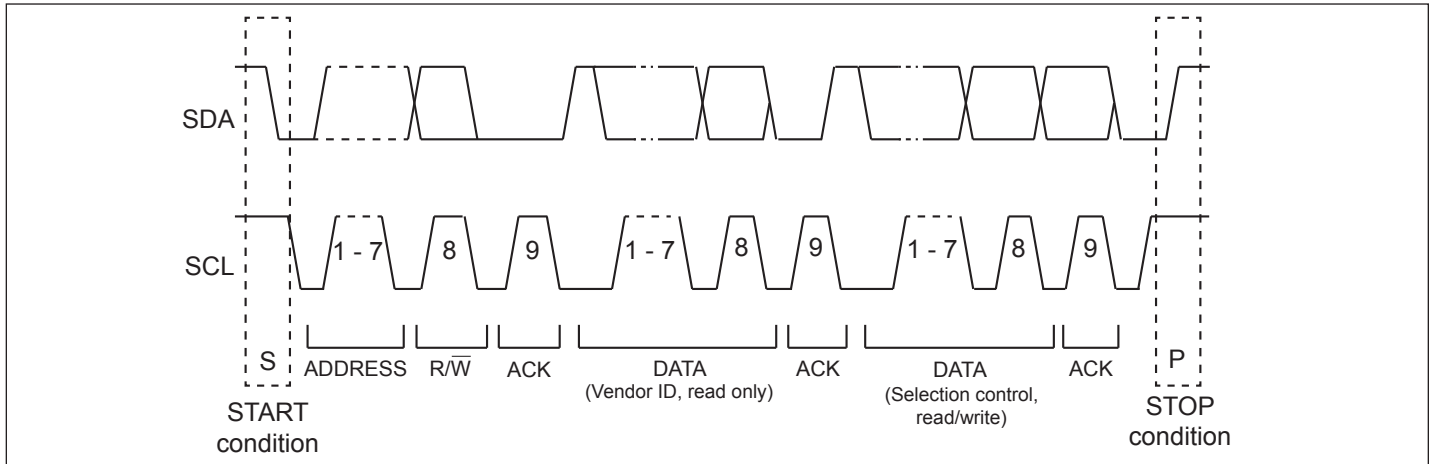

Figure A1: A Complete Data Transfer
Data transfers follow the format shown in Fig.A1 After the START condition (S), a slave address is sent. This address is 7 bits long followed by an eighth bit, which is a data direction bit (R/W)—a 'zero' indicates a transmission (WRITE), and a 'one' indicates a request for data (READ). A data transfer is always terminated by a STOP condition (P) generated by the master. However, if a master still wishes to communicate on the bus, it can generate a repeated START condition (S) and address another slave without first generating a STOP condition. Various combinations of read/write formats are then possible within such a transfer.